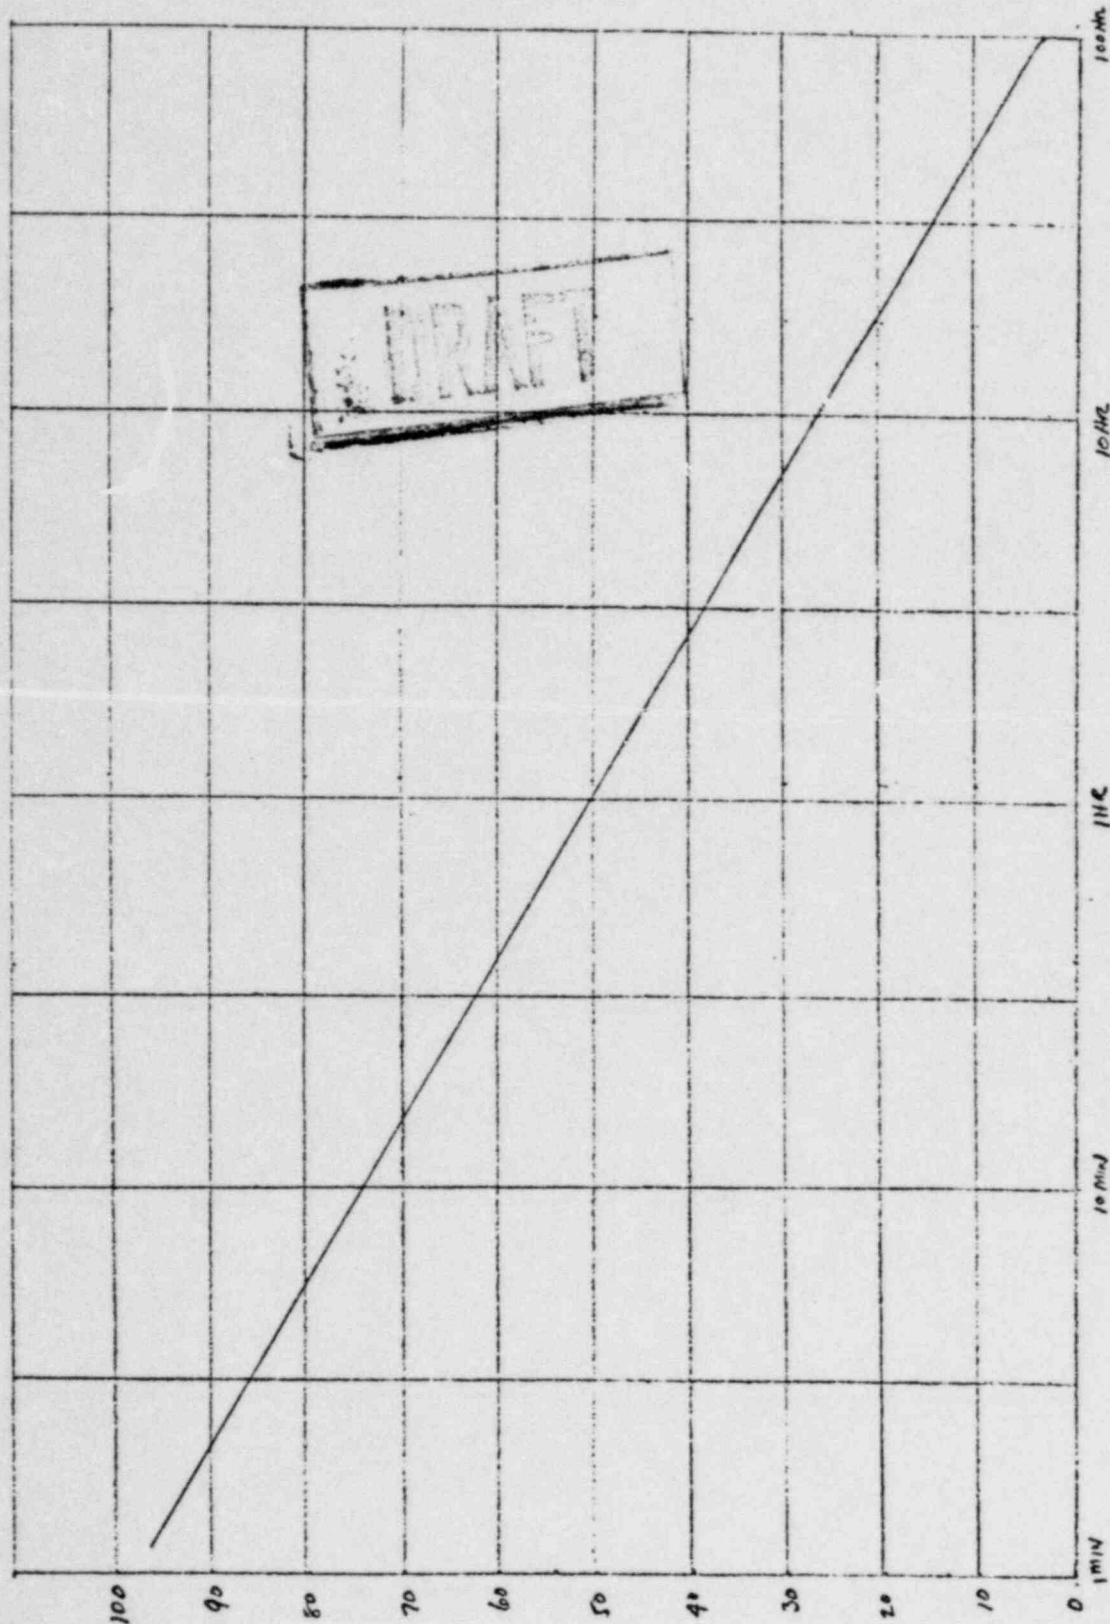

FIG 1
3.5 If the single SRV pressure rise exceeds the minimum single SRV pressure rise, Fig. 1, continue in this procedure at paragraph 3.7. If the single SRV pressure rise is less than the minimum single SRV pressure rise, per form Step 3.6. _____